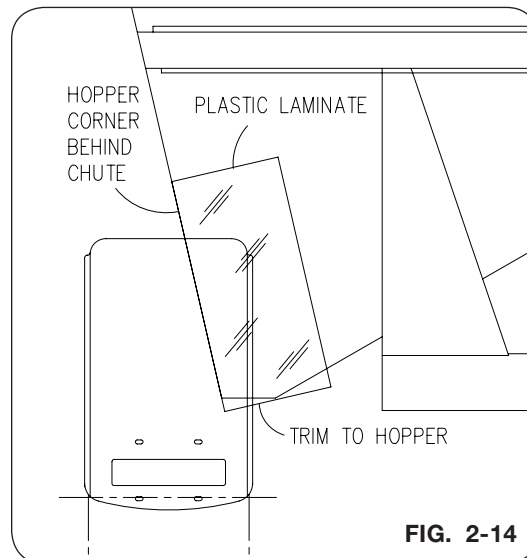

FIG. 2-14
11. Insert knotted stretch rope (221722) through flat washer (9405-074), plastic tube (221668) and end plug (9004947). Place these items as an assembly into front end of 2" roll tube weldment and press the end plug into the end of the tube. Screw self-drilling screw (9001396) through the side of roll tube, into end plug (9004947) to retain plug into tube. Slide hose (TA806225) over bungee. See Fig. 2-14.